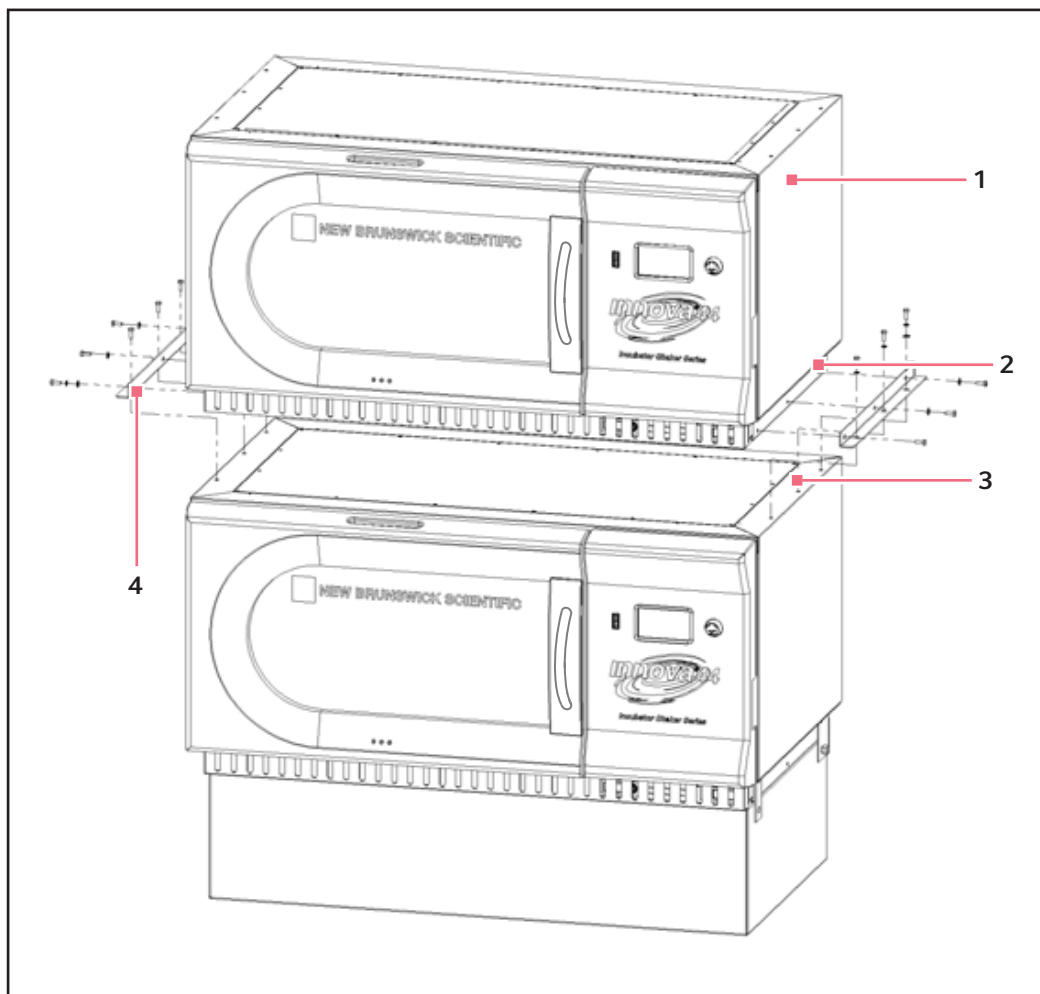

Fig. 6-5: Install Innova 44/44R Stacking Kit
3. With reference to the figure below (see Fig. 6-5 on p. 27), remove the set screws from the top of the bottom unit, on the two side edges, and remove the set screws (from the sides of the unit to be stacked) that correspond to the mounting brackets.
4. Using the screws and washers provided, attach the stacking kit mounting brackets to the top of the bottom unit. Secure the brackets in place as shown (see Fig. 6-5 on p. 27).